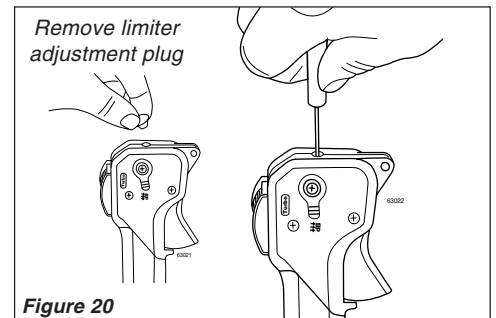

Figure 20
1. Remove the plug located at the top of the throttle assembly. See Figure 20.
2. Move the throttle limiter lever to the "dB" setting. See Figure 20.